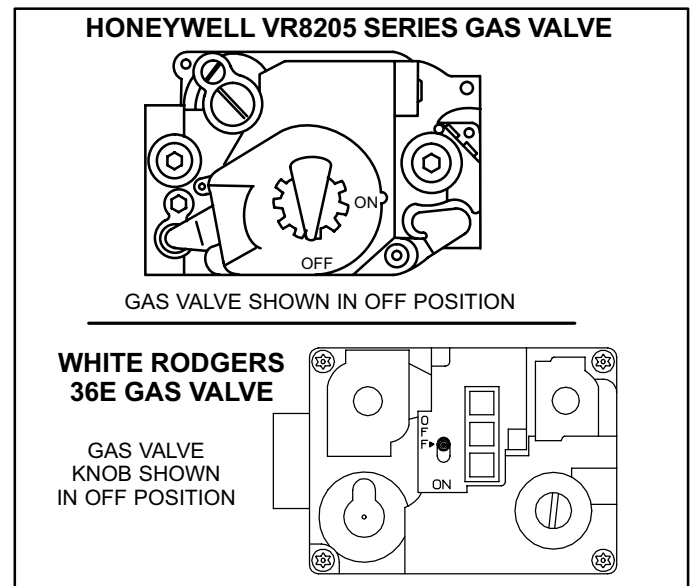

FIGURE 34
#### How To Operate Gas Valve (Figure 34)
- 6 - On Honeywell VR8205 gas valves, turn knob on gas valve clockwise ➡ to **OFF**. For White Rodgers 36E gas valves, move switch to **OFF**. Do not force. See figure 34.